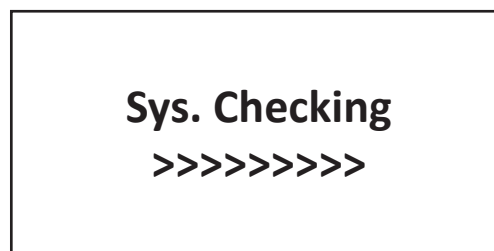

Figure 6-1 System self check ongoing
(1) System check mode for start up, as shown in Figure 6-1: